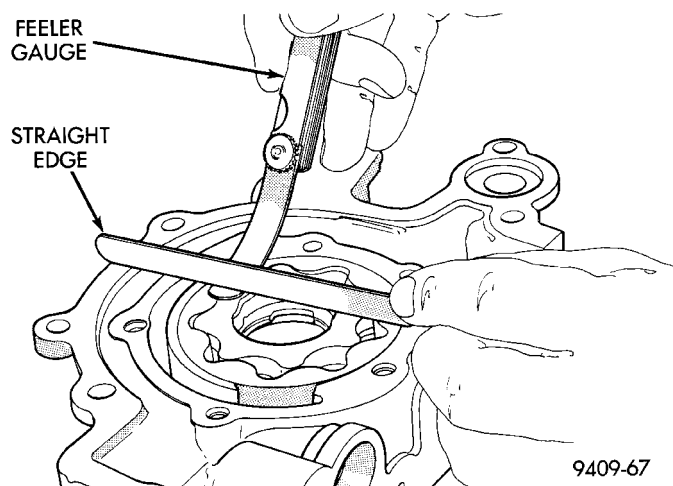

Fig. 106 Measuring Clearance Over Rotors
(7) Place a straightedge across the face of the pump housing, between bolt holes. If a feeler gauge of .102 mm (.004 inch) or more can be inserted between rotors and the straightedge, replace pump assembly (Fig. 106). **ONLY** if rotors are in specs.